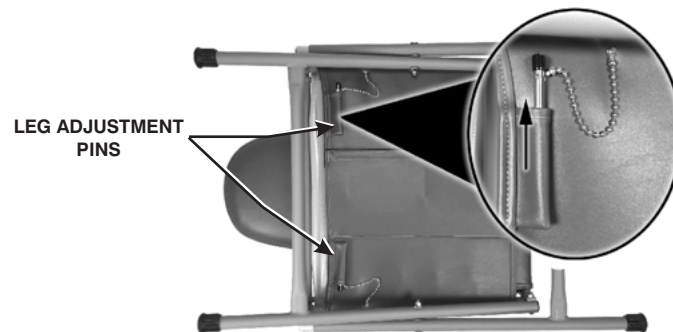

Fig.1
2. Rotate the chair up onto one side and remove the leg adjustment pins from their storage pouch underneath the chair seat. (Fig. 1)
1. **Seat Height-** The ADC-01CS chair seat height can be set at any of the five preset settings. Without a patient in the chair, put your toe on one of the front chair legs and lift up slightly on the chair seat. While lifting seat, remove the leg adjustment pin from the right and left side. Align link with tube hole in any of the five positions and lock in place by inserting chain and pin. (see Fig. 1)